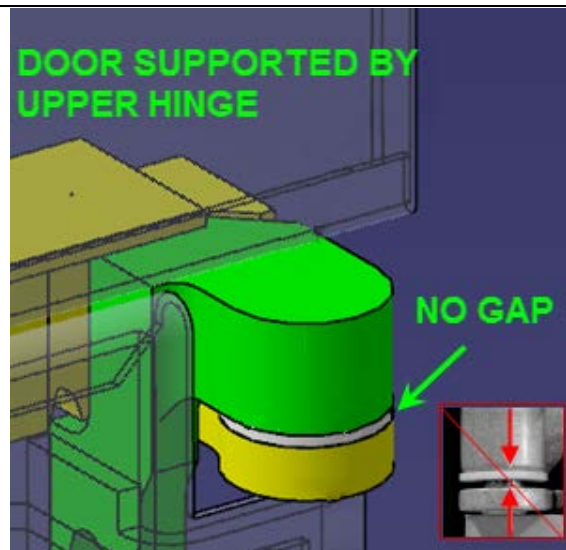

FIG.14 UPPER SUPPORT- NO GAP
- Door is fully supported by the *top hinge*, not the lift table (no gap at the pivot point) (Fig.14).